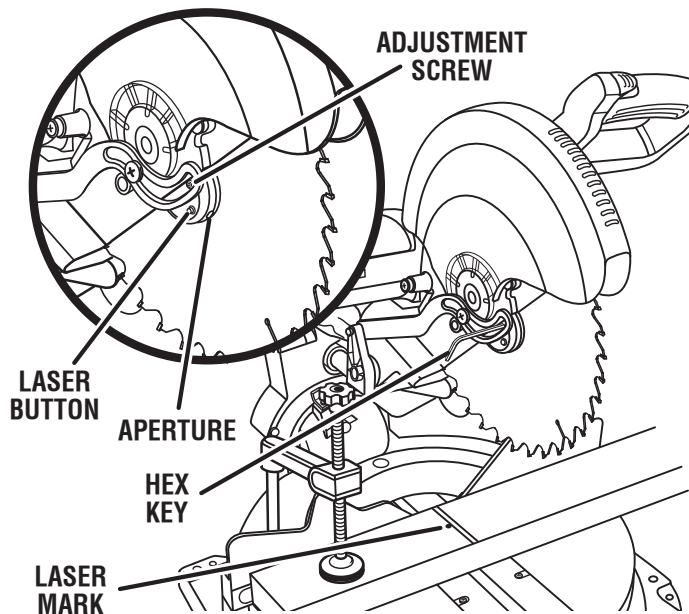

Fig. 49
See Figure 49.
- Rotate the blade by hand until you can push and hold the laser button and the laser is near the center of the workpiece as shown in figure 49.
- To adjust the laser, turn the adjustment screw counter-clockwise or clockwise using the hex key (1/16 in.) provided.